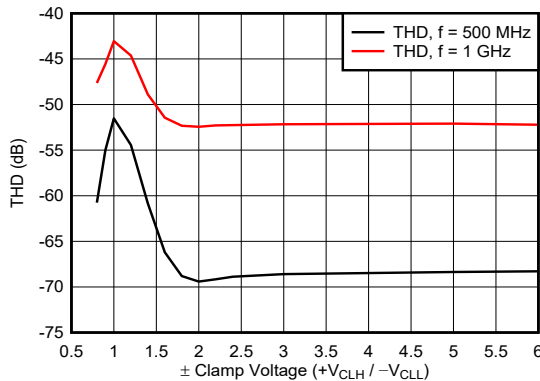

图 8-4. THD vs V_{CLH} / V_{CLL} for $V_{OUT} = 1 V_{PP}$
- The output THD of the BUF802 degrades when V_{CLH} and V_{CLL} are set close to the expected V_{OUT} peak value. To prevent signal degradation, maintain at least a 1.5 V difference between the expected peak output voltage and the clamp voltage applied at the CLH and CLL pins. 图 8-4 shows the relation between the absolute clamp voltage value and THD for a 1 V_{PP} output.